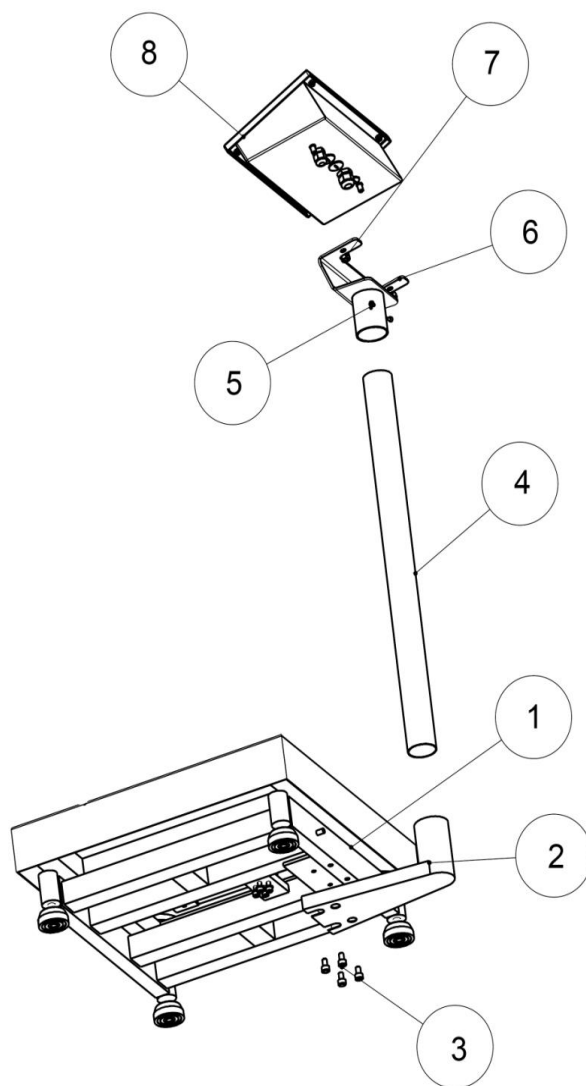

Fig.2
2.2 MONTAGGIO PBI+PBICL...+PBICLST+DFWLI (FIG.2)